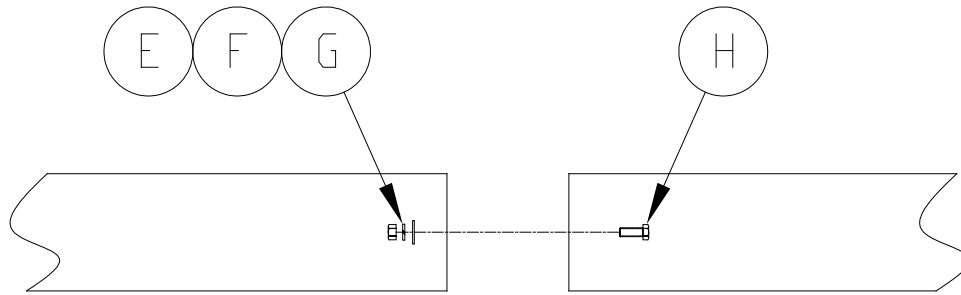

Figure 2-2 Fasten ends of dock using two hex bolts.
1. (Refer to Figures 2-2 and 2-3) The connecting frame (1) is connected between two dock sections and fastens the two together.
2. The ends of the dock sections bolt to each other using two 3/8 bolts (H), 3/8 flat washers (E), 3/8 split lock washers (F), 3/8 hex nuts (G).